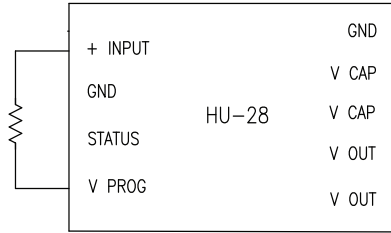
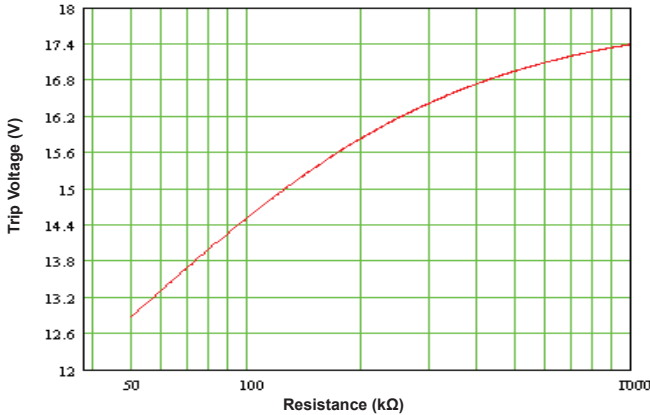

Figure A3. External resistor method for obtaining a trip voltage smaller than 18V
Figure A4. Trip voltage as a function of resistance connected between V_{PROG} and +INPUT
- a. For a trip voltage smaller than 18V, connect a resistor between V_{PROG} and +INPUT as shown in figure A3. The trip voltage can be estimated from figure A4.